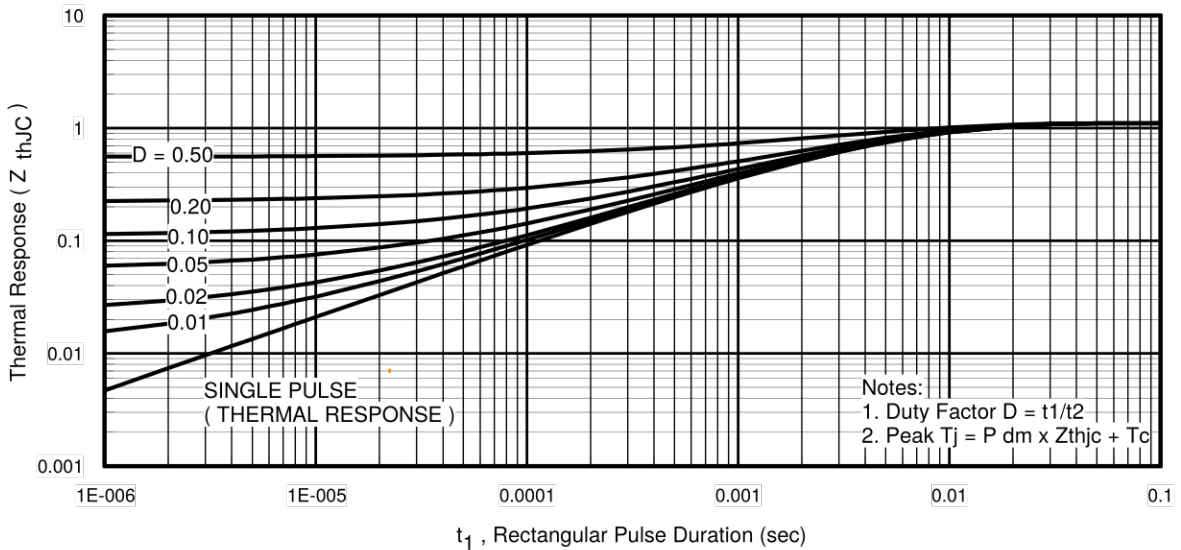
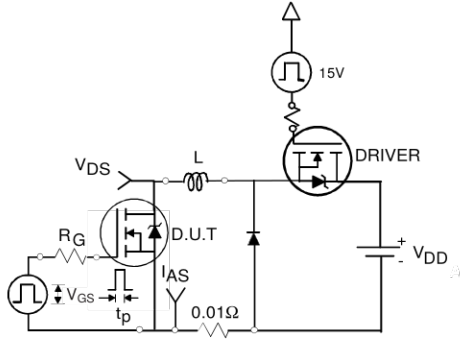

Fig 11. Maximum Effective Transient Thermal Impedance, Junction-to-Case
Fig 12a. Unclamped Inductive Test Circuit
3. Equation below based on circuit and waveforms shown in Figures 12a, 12b.
$Z_{thJC}(D, t_{av})$ = Transient thermal resistance, see figure 11)
- ① Repetitive rating; pulse width limited by max. junction temperature. (See fig. 11).
- ② Limited by T_{Jmax} , starting $T_J = 25^\circ\text{C}$, $L = 0.05\text{mH}$, $R_G = 25\Omega$, $I_{AS} = 75\text{A}$, $V_{GS} = 10\text{V}$. Part not recommended for use above this value.
- ③ Pulse width $\leq 1.0\text{ms}$; duty cycle $\leq 2\%$.
- ④ C_{oss} eff. is a fixed capacitance that gives the same charging time as C_{oss} while V_{DS} is rising from 0 to 80% V_{DSS} .
- ⑤ Limited by T_{Jmax} , see Fig.12a, 12b, 15, 16 for typical repetitive avalanche performance.
- ⑥ This value determined from sample failure population. 100% tested to this value in production.
- ⑦ This is only applied to TO-220AB package.
- ⑧ This is applied to D²Pak, when mounted on 1" square PCB (FR-4 or G-10 Material). For recommended footprint and soldering techniques refer to application note #AN-994.